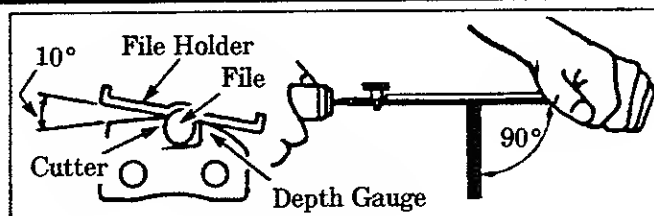

Figure 25
- a.) Position the file holder level at a 10° angle on the top plate of the cutter and depth gauge. Figure 25.